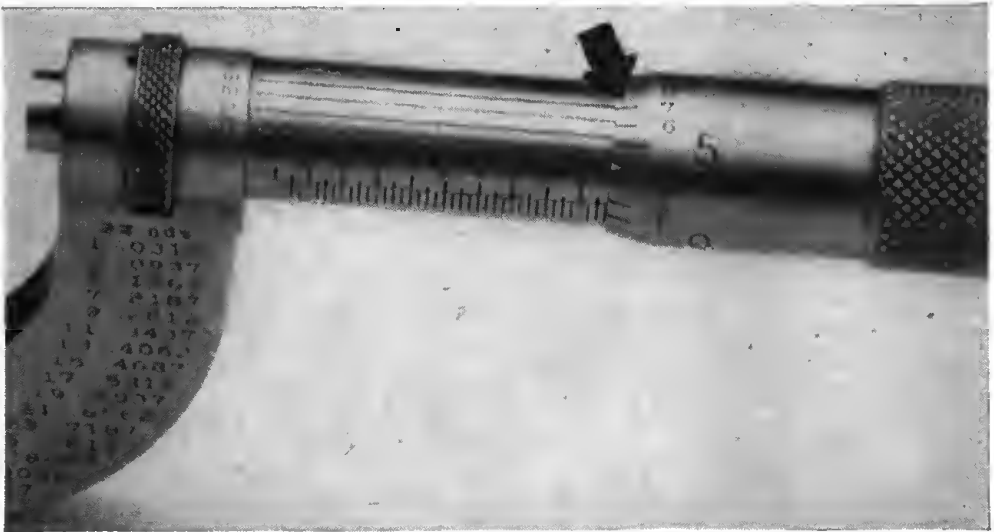

Figure 74. Vernier scale on a micrometer.
(3) For very accurate work it is sometimes necessary to read the micrometer to within $\frac{1}{10,000}$ inch. In order to be able to do this, the micrometer must have a vernier scale on it. The vernier scale is located on the barrel. It is a series of 11 lines marking off 10 spaces parallel to the center line of the barrel. (See fig. 74.) The space between two of